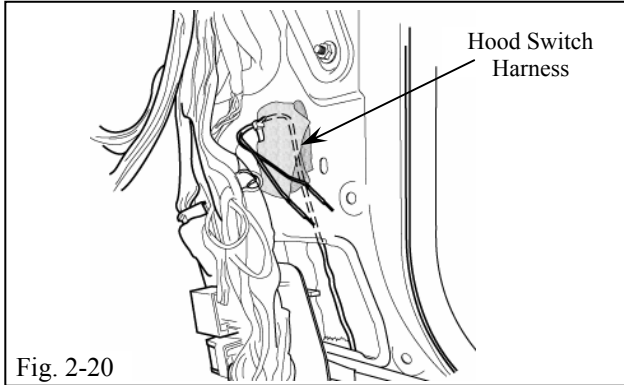

Fig. 2-20
- (bb) Route the Hood Switch Wire as shown and re-install the Passengers Side Junction Box. (Fig. 2-20)